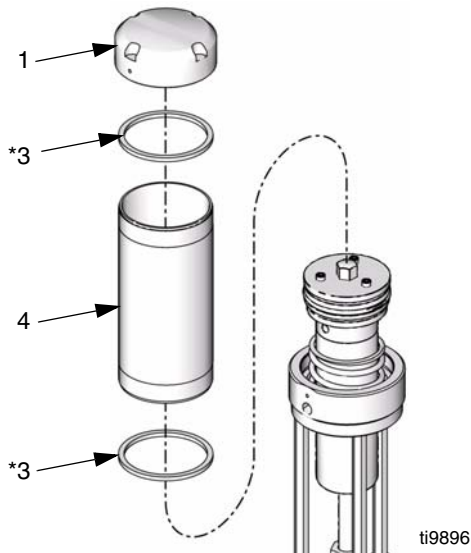

FIG. 10
1. Remove cap (1), cylinder (4), and square gaskets (3*). Inspect all parts, including spring under cap (not shown in FIG. 10) for damage and replace if necessary. See FIG. 10. Unscrew by hand or use a chain wrench to prevent distortion of the cylinder's shape.